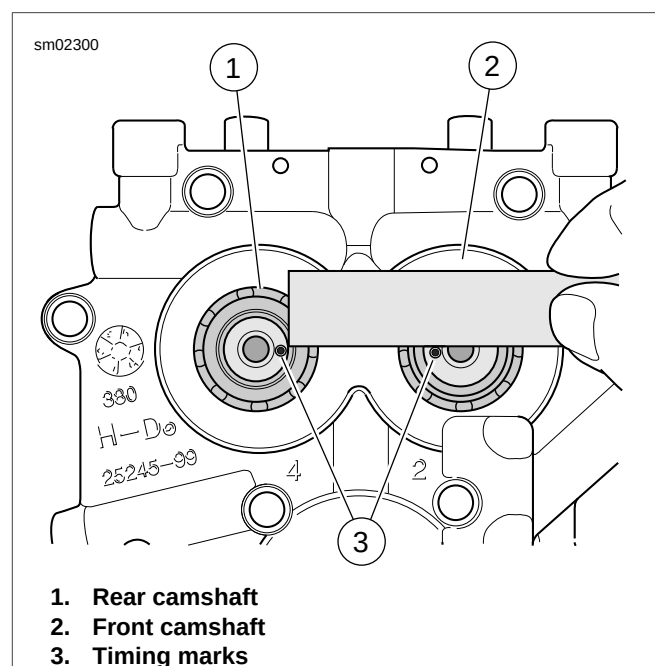

Figure 3-111. Verify Alignment of Timing Marks
4. Place small guide (2) on rear camshaft (1). Place large guide (4) on front camshaft (3).
8. See Figure 3-111. Using a straightedge, verify that the timing marks are in alignment. If they are not, then the camshafts must be removed, realigned and reinstalled.